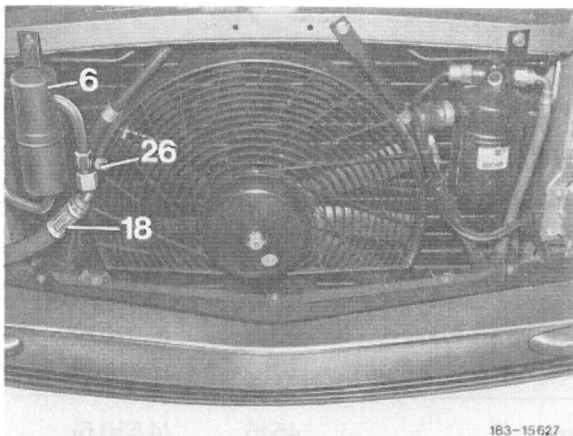

Fig. 158
8 Unscrew pipe lines (3) rear on refrigerant compressor from holder (17) and from hose line (27) (Fig. 158, 161, 164), as well as hose line (18) on silencer (6).
18 Attach refrigerant compressor with parts item 4 to 8 to carrier (2) (Fig. 158, 160, 161, 164).